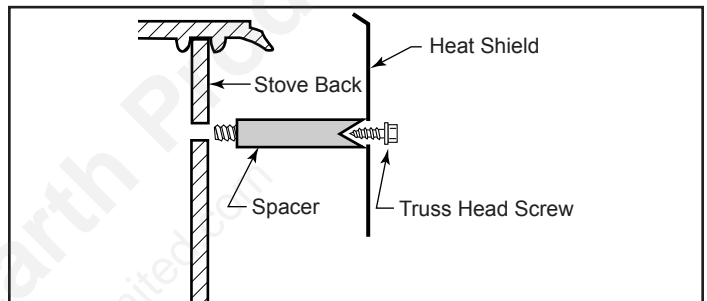

Figure 5 - Attach heat shield using spacers and truss head screws.
4. Fasten the heat shield (and insert if required per Step 2b) to the spacers using the truss head screws previously removed from the back of the stove. (Figure 5)